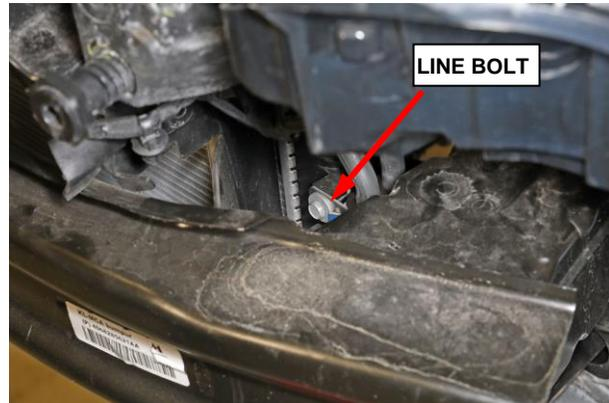

Figure 14 – Oil Cooler Line Brace Bolt
19. Remove the transmission cooler line support brace bolt (Figure 14).
28. Install the transmission cooler line support brace bolt (Figure 14).